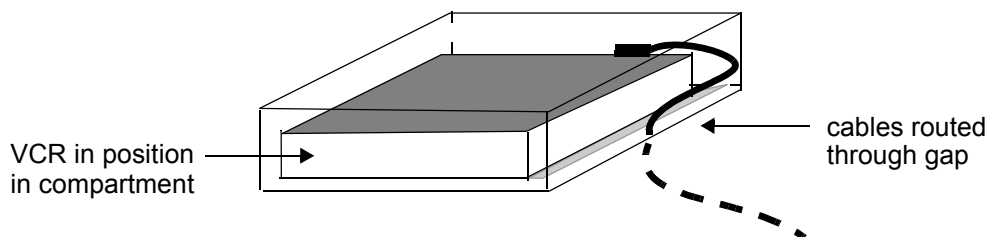

Figure 8-140 JVC VCR in Position in Side Compartment
- 8.) Continue sliding the VCR all the way back into the final position with one hand, while gently pulling the cables in a *downwards* direction. The VCR and attached cables are now positioned as shown in Figure 8-140 below.